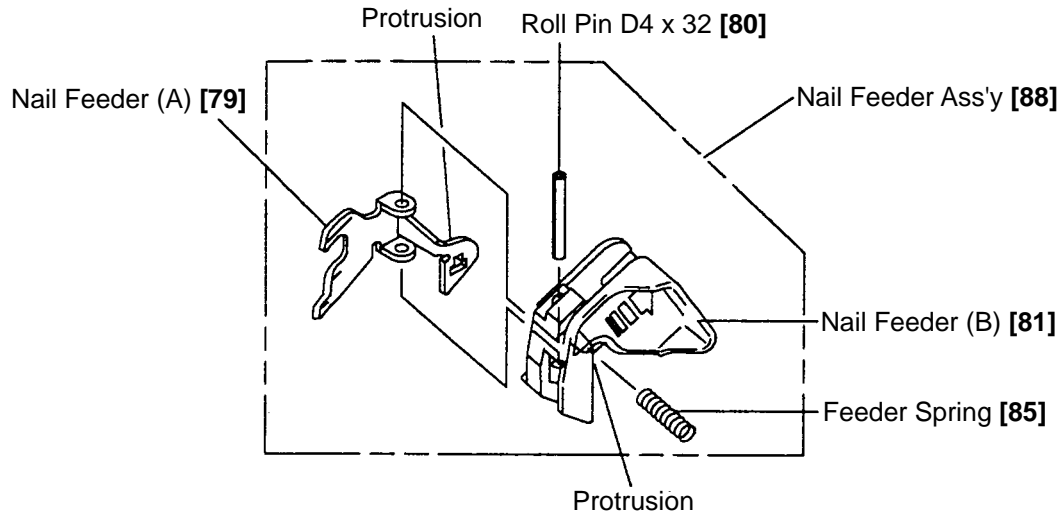

Fig. 24
(2) Nail Feeders (A) [79], (B) [81] and the related parts (See Fig. 24.)